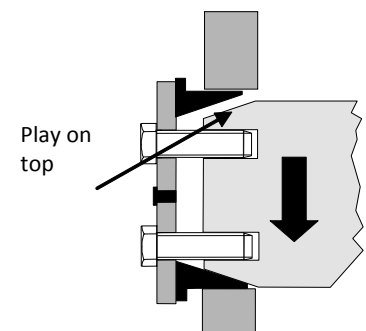

Fig. 5.
- ❖ Tighten the bolt screws to the specifies torque in order to expand the taper sleeves. F The weight of the equipment may prevent effective tightening (see Fig. 5).